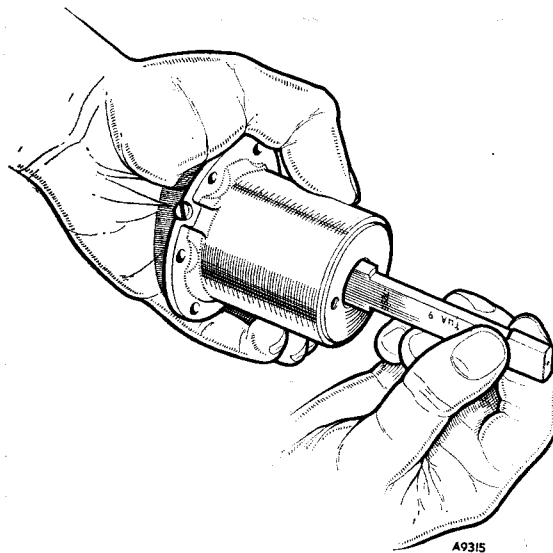

Fig. 4. Checking the housing small bore diameter using gauge TUA 9
3. Check the small bore diameter in the end of the coil housing with plug gauge TUA 9 (Fig. 4).